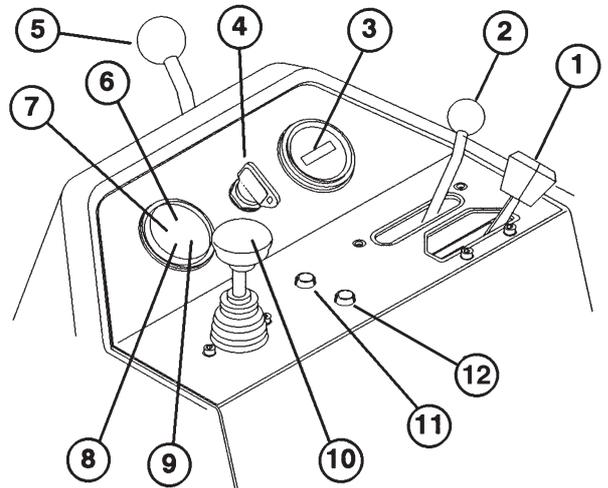

Figure 9
**Throttle Control** (Fig. 9)—The throttle controls the
**Functional Control Lever** (Fig. 9)—Provides two (2) traction selections, plus a “NEUTRAL” position. It is permissible to shift from mow to transport or from transport to mow (not to neutral) while the Greensmaster 3250-D is in motion. No damage will result.
**Hour Meter** (Fig. 9)—Indicates the total hours of machine operation. The hour meter starts to function whenever the key switch is turned to “ON”.
**Ignition Switch** (Fig. 9)—Insert the key into the switch, turn it clockwise as far as possible to the “START” position to start the engine. Release the key as soon as the engine starts; the key will move to the “ON” position. Turn the key counter-clockwise to the “OFF” position to stop the engine.
**Steering Arm Locking Lever** (Fig. 9)—Rotate the lever rearward to loosen adjustment, raise or lower the
**Water Temperature Light** (Fig. 9)—This light glows and the engine automatically shuts-down when the engine coolant temperature gets too high.
**Water-in-Fuel Indicator Light** (Fig. 9)—This light glows when water is detected in the fuel.
**High-Temperature Override Button** (Fig. 9)—If the engine kills due to an over heat condition, press the override button in and hold it there until the machine can be moved to a safe location and allowed to cool down.
**Battery Warning Light** (Fig. 9)—Light glows if the battery charge is low.
**Oil Pressure Light** (Fig. 9)—Light glows if the engine oil pressure drops below a safe level.
**Raise/Lower/Mow Control** (Fig. 9)—Moving this control forward during operation lowers the cutting units and starts the reels. Pull back on the control to stop the reels and raise the cutting units. During operation, the reels can be stopped by pulling back on the control momentarily, then releasing it. Restart the reels by moving the control forward.